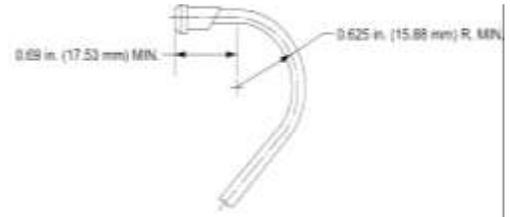

Figure 2
- B. Examine each fuel line for damage, leaks, dents, pits, nicks, kinks, stains (from fuel leaks), cracks, brittleness, nearby heat sources, chafing, looseness, crimped, kinked, or sharp bends. Refer to Figure 2 which shows the minimum acceptable dimensions for a bend in the fuel line. Replace (do not try to repair) a worn, damaged, chafed, brittle, crimped, sharply bent, kinked, or loose fuel line. (A loose fuel line could have been subjected to vibrational forces and be weakened. Cracks can develop at kinks in fuel lines.)
Damaged, pitted, nicked, dented, loose, crimped or kinked fuel line or fuel line with an inside radius than that shown in Figure 2.	Do NOT re-use any fuel line that is damaged, dented, pitted, crimped, or kinked. Dents can cause cracks to form. Replace the fuel line with a new fuel line.*